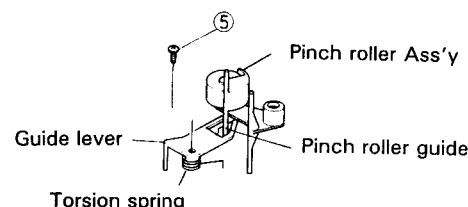

Fig. 5
2. Remove screws ⑤ fixing the guide lever, then remove the guide lever from the pinch roller guide. (Fig. 5)